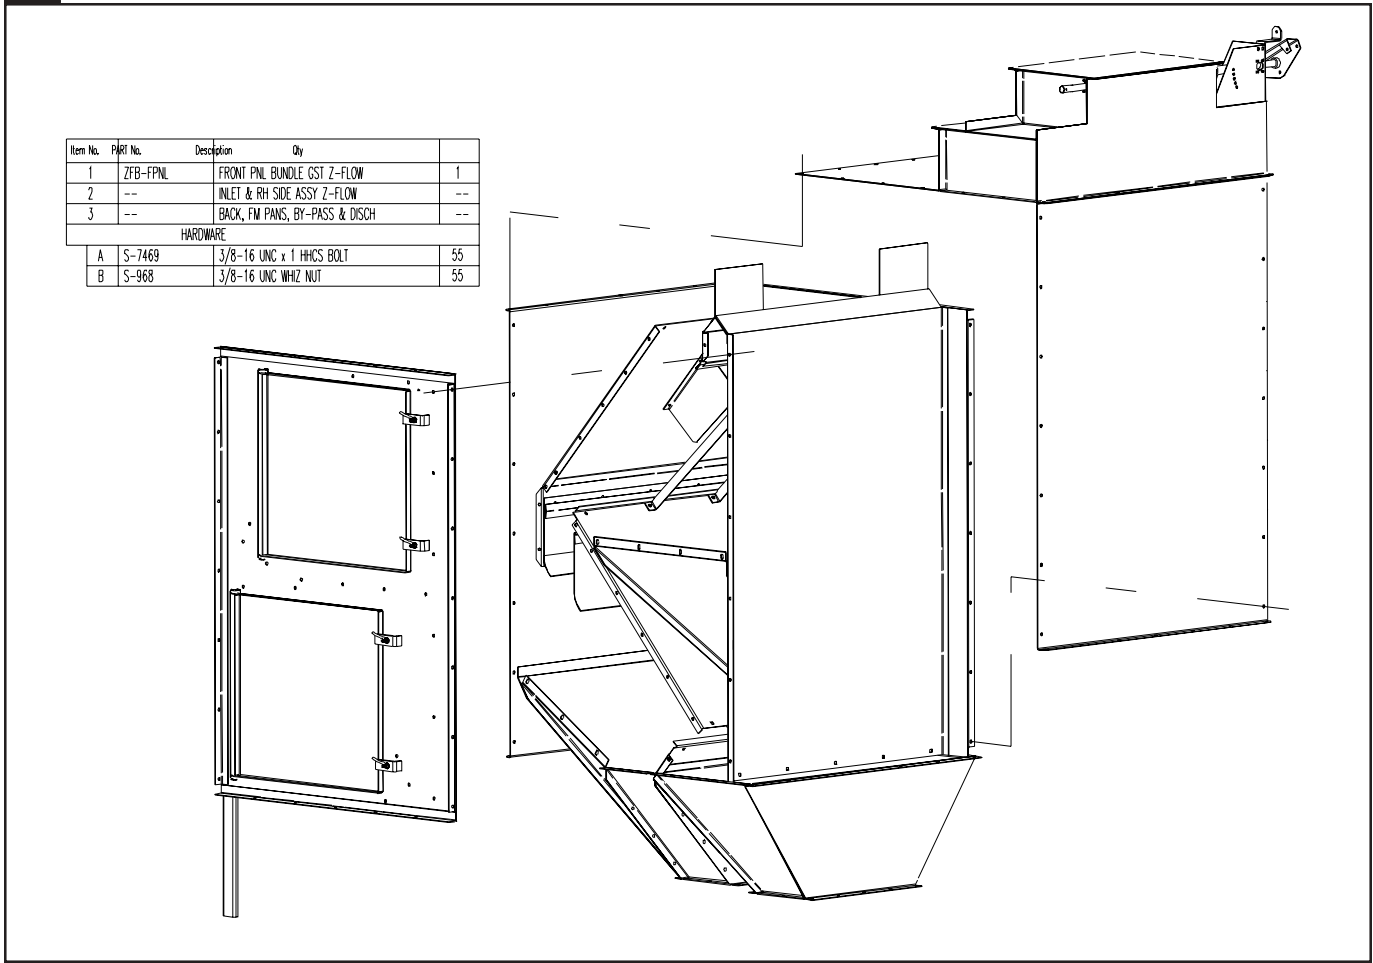

FIGURE 19
*(Refer to Figure 19 for hole alignment.)*
1. Connect the Front Panel Bundle (1) to the Back, Fm Pans, By-Pass, & Discharge Assembly (3) using 3/8" x 1" HHCS Bolts and Whiz Nuts.
2. Attach the Inlet & RH Side Assembly (2) to the Back, FM Pans, By-Pass, & Discharge Assembly (3) using 3/8" x 1" HHCS Bolts and Whiz Nuts.